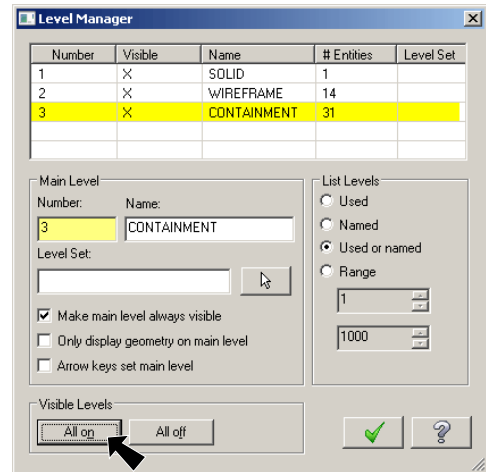

Fig. 65
Step 2. Turn on SOLID and WIREFRAME levels. To turn on levels, click **All on** button. Click **OK**  when done, **Fig. 65**.